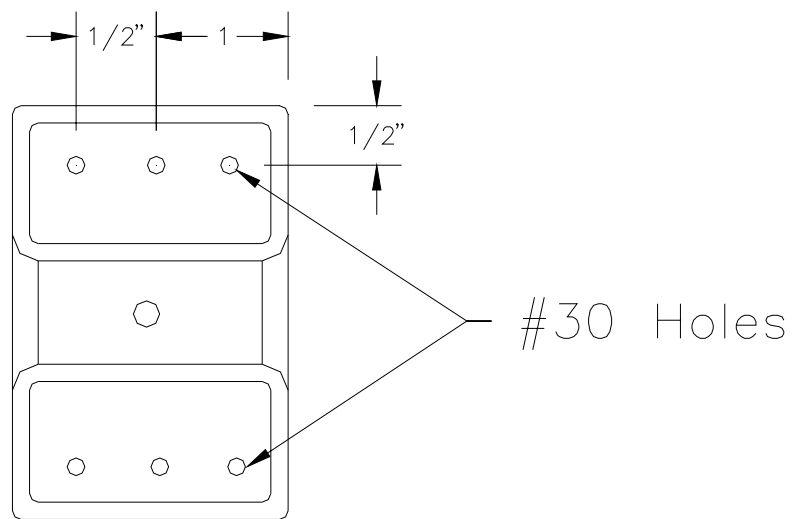

Figure 20.4.2
2) Drill six #30 holes through the bell crank holder into the floor. Figure 20.4.2.